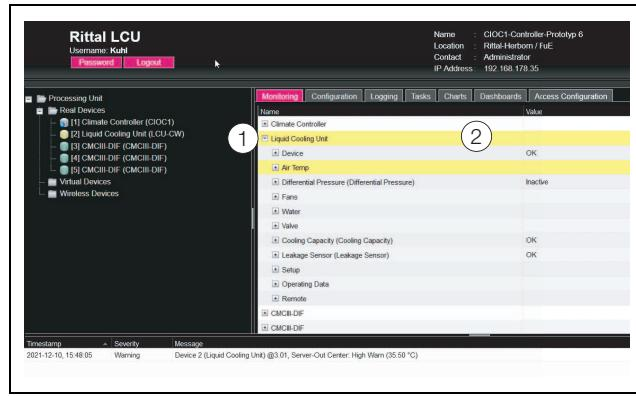

Fig. 37: Selecting multiple parameters
- Simply open the "Liquid Cooling Unit" entry by clicking on the "plus" symbol in front of that entry (fig. 37, item 1).
- Position the mouse pointer at the end of the first column in the "Liquid Cooling Unit" line (fig. 37, item 2). An "Edit" symbol will appear, and the mouse pointer will change to a "Hand" symbol.